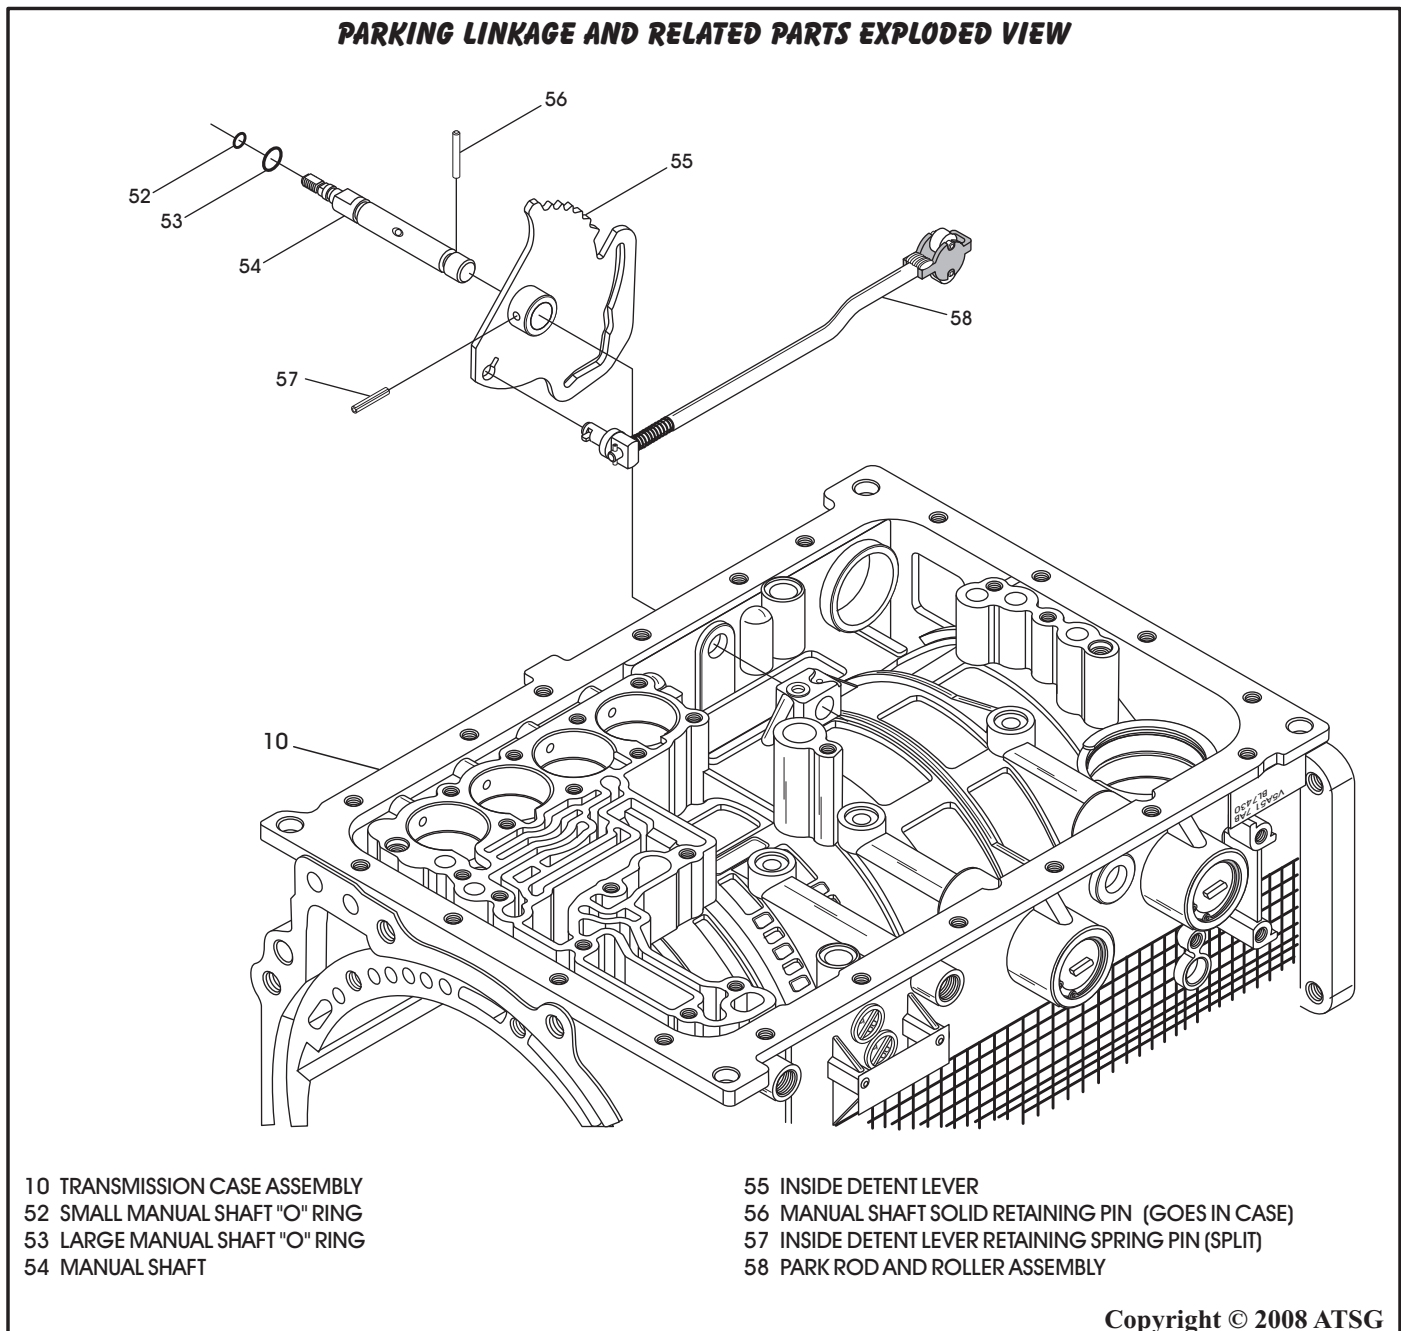

Figure 63
1. Disassemble the manual and parking linkage parts by removing the two retaining pins, and using Figure 63 as a guide.
2. Remove and discard the two "O" ring seals on the manual shaft, as shown in Figure 63.
3. Remove and discard the manual shaft seal from the case, as shown in Figure 63.
8. Engage park rod and roller assembly into the "key-hole" in the inside detent lever, as shown in Figure 63, and install into case.
9. Install the manual shaft and "O" ring assembly through the case bore, through the inside detent lever and into inside case boss, as shown in Figure 63.
10. Install the spring pin (split) through the inside detent lever and into manual shaft, as shown in Figure 63.